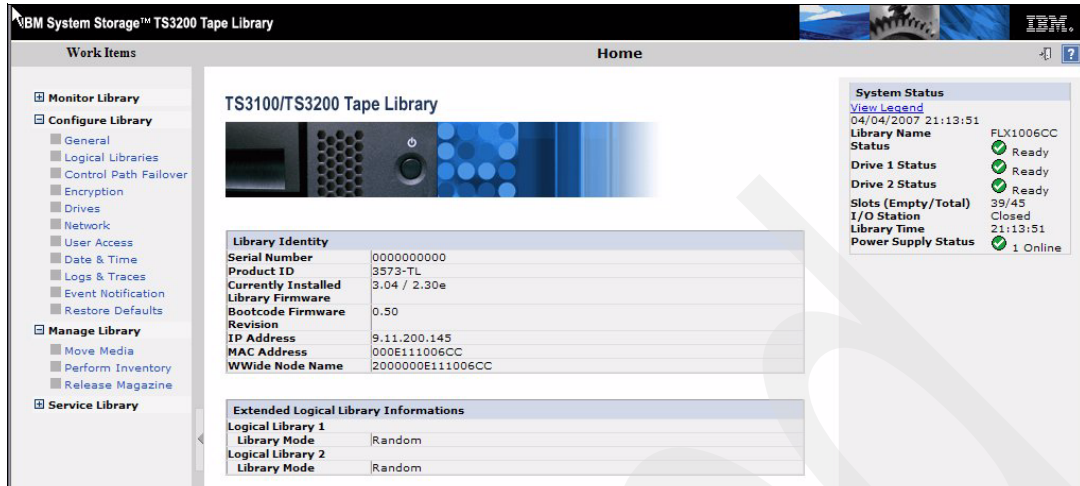

Figure 2-8 IBM TS3200 Home menu
Click the **Login** button to log in. This shows the Home menu, and you can now perform any operations on the library; see Figure 2-8.
2. In the Home panel (see Figure 2-8), select the **Configure Library** → **Logical Libraries** to define one or more partitions. Select the partitions, and **submit**. You are asked to verify the update, and then the reconfiguration starts, taking some minutes.